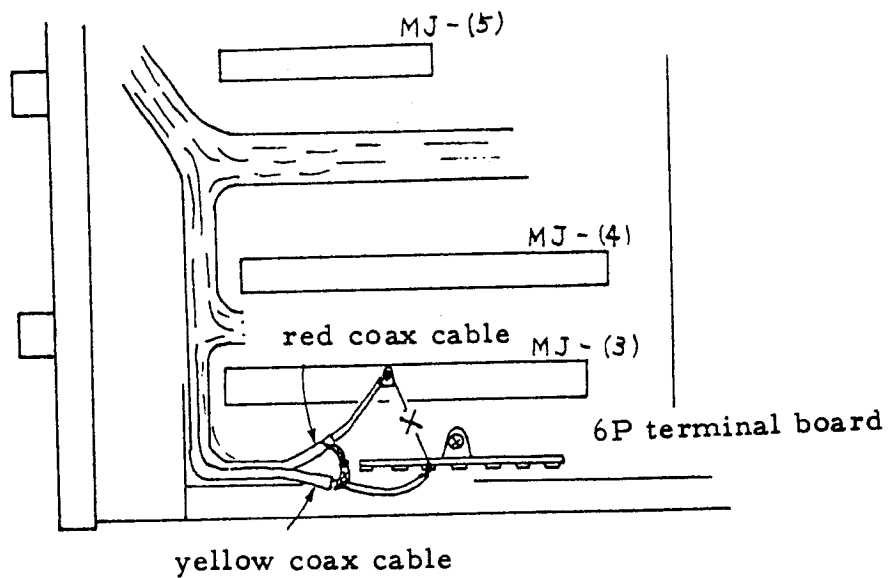

Fig. 6-9
4. Remove a wire between Pin 10 of MJ-3 and terminal board at the side of MJ-3. (See Fig.6-9)
1. Remove the jumper wire between Pin 10 of MJ-3 and 6P terminal board (X mark in Fig. 6-9).
2. Locate the unsoldered red and yellow coax cable between MJ-3 and chassis wall. Solder inner conductors as illustrated in Fig. 6-9.